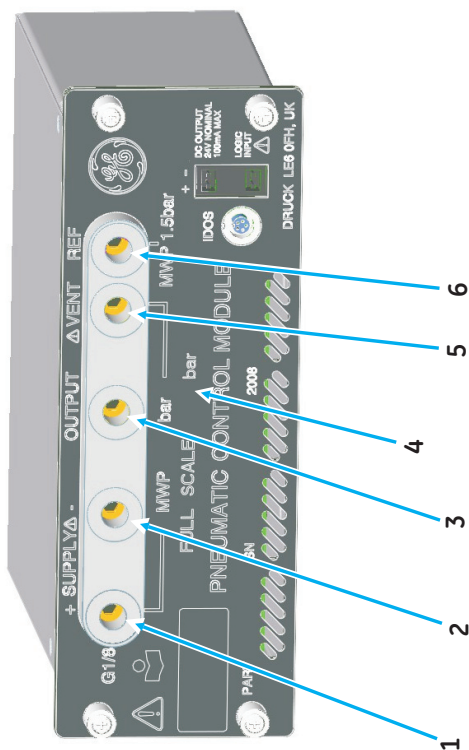

Figure 1
- Do not apply pressures above the maximum working pressure (MWP) stated on the rear panel (Fig 1, item 4).
Key to Figure 1